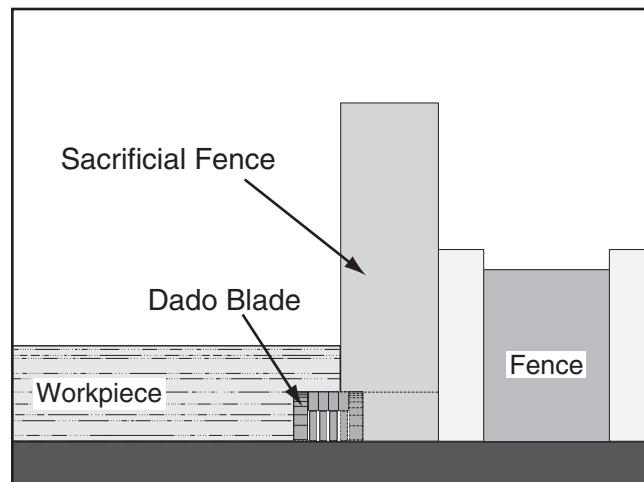

Figure 65. Rabbet cutting.
3. Adjust the fence and align the workpiece to perform the cutting operation, as shown in **Figure 65**.